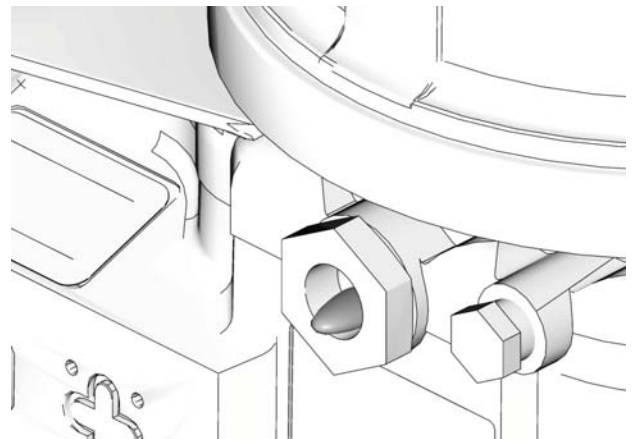

FIG. 10
2. Only run pump until air is no longer dispensed with the lubricant coming out of element fitting (FIG. 10).